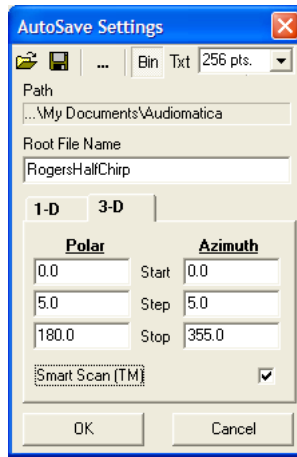

Figure 12.11
Let's start with setting the autosave function (see also 5.3). Pressing **Alt-F2** we recall the Autosave Setting dialog (fig.12.11); here we choose the 3D mode and input the desired filename ('RogersHalfChirp'), polar start (0), polar step (5), polar stop (180), azimuth start (0), azimuth step (5) and azimuth stop (355).